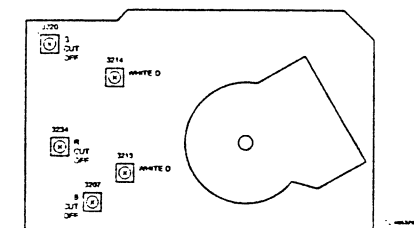

Fig. 7.2
2. Adjustments on the CRT panel (Fig. 7.2)